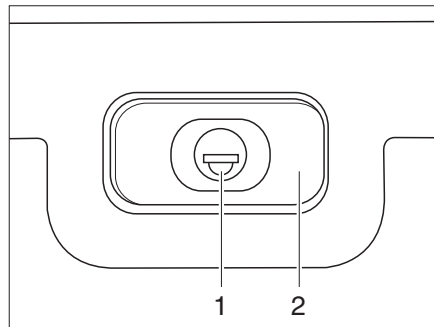

Fig. 32 Flap lock, rectangular, locked
- Insert the key into the locking cylinder (Fig. 32,1) and turn a quarter turn. Lock handle (Fig. 32,2) is released.